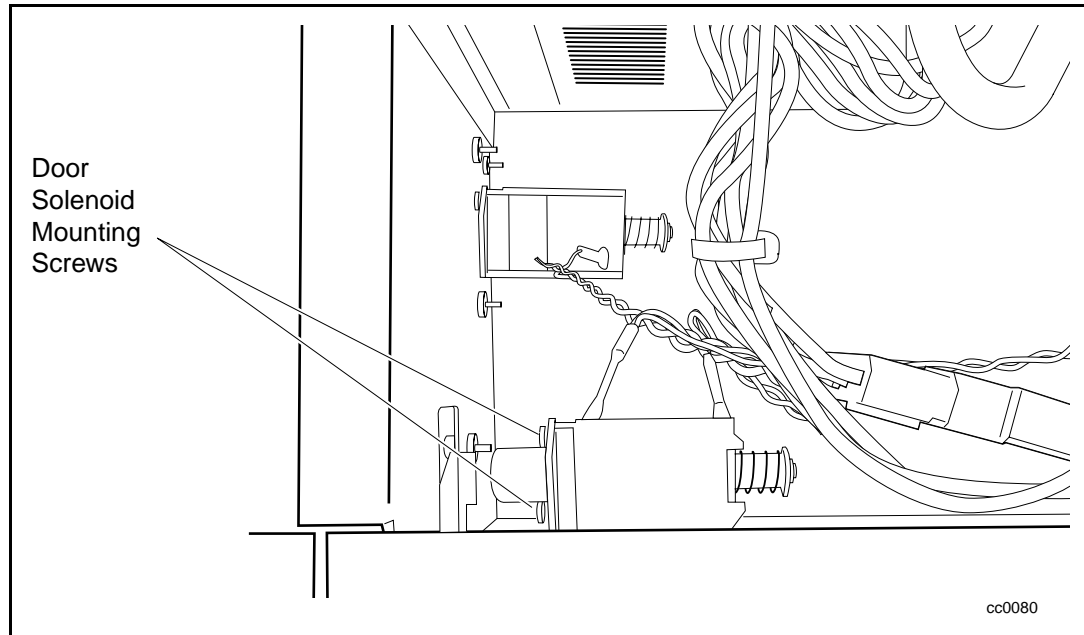

Figure 5-9. Removing the door solenoid
2. Remove the two screws that fasten the door solenoid to the bracket (see Figure 5-9).